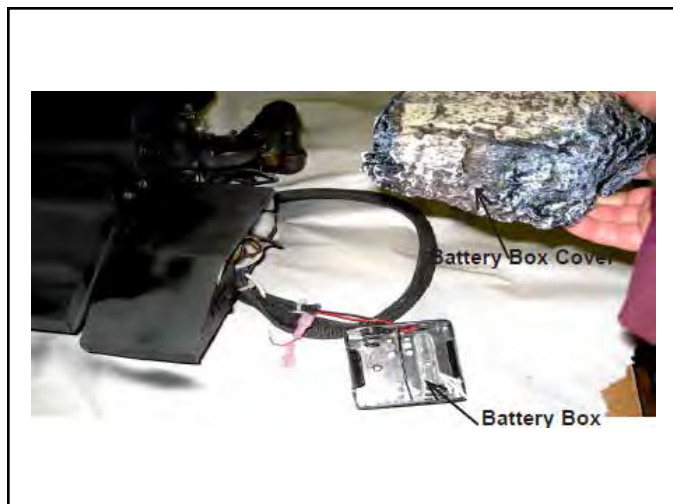

Figure 7.1 Batteries and Log Cover
4. This appliance includes a battery box which holds 2 "D" size batteries. The battery box should be placed in the right front corner of your fireplace and covered with the log cover as shown in Figure 7.1.